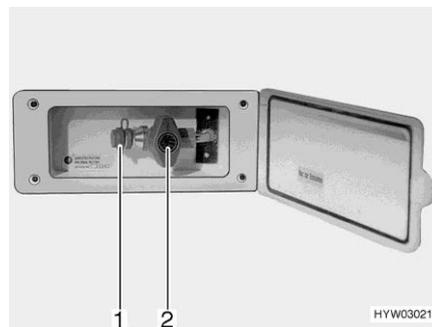

Fig. 171 External gas connection
- Connect the external gas device to the connection point (Fig. 171,1).
- Open the gas isolator tap (Fig. 171,2).